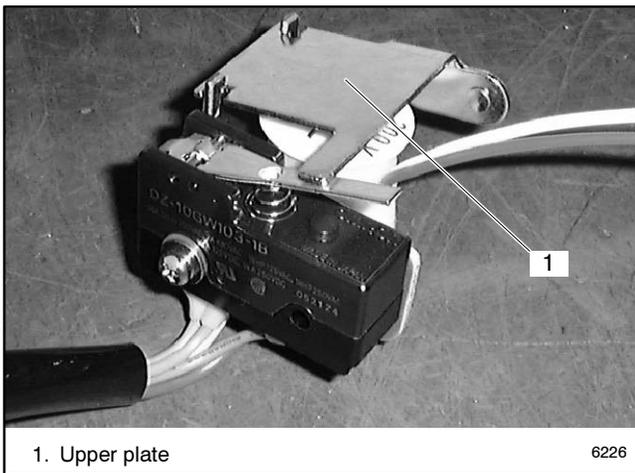

Figure 6-19 Select Coil Assembly
- Remove the upper plate from the select coil assembly. See Figure 6-19.